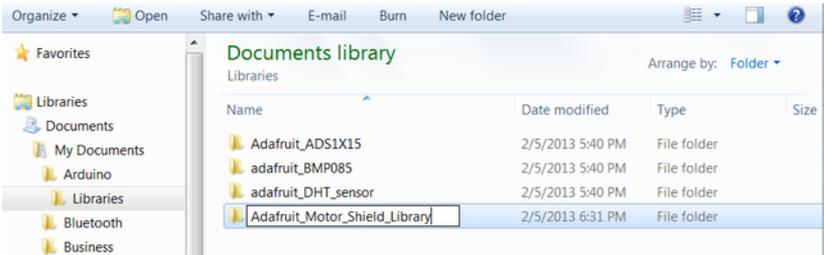

Figure 4-8. Rename the library folder to the name expected by your program
3. Give the library folder a valid name. The name of the folder you've copied may be different from the name the Arduino IDE expects to find during normal use. For example, GitHub may append the word *master* to the filename, which is not desired in the final installation. Also, the IDE will not recognize folders with dashes in the name (you can replace these with underscores, which are fine). Check the main code or library examples for the name that the example code expects, and change the name to that, as shown in Figure 4-8.